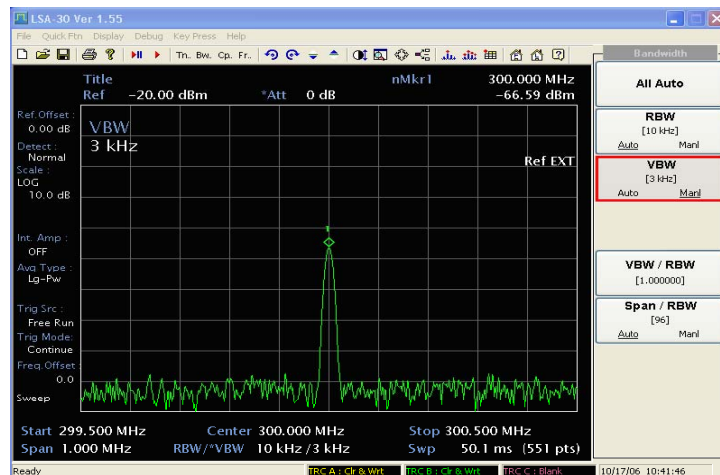

Fig. B-15 Decreasing video bandwidth
- 8 A '\*' appears next to the VBW annotation at the bottom of the screen, indicating that the video bandwidth is not coupled to the resolution bandwidth. See Fig. B-15.